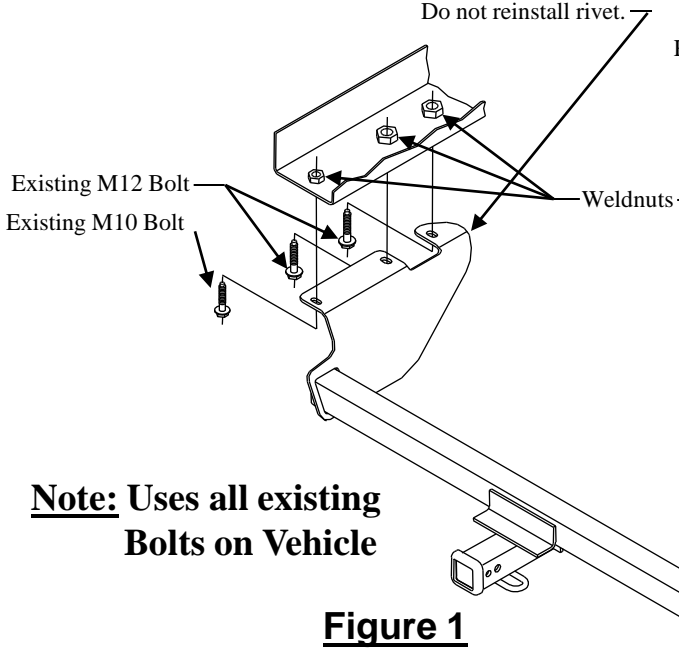
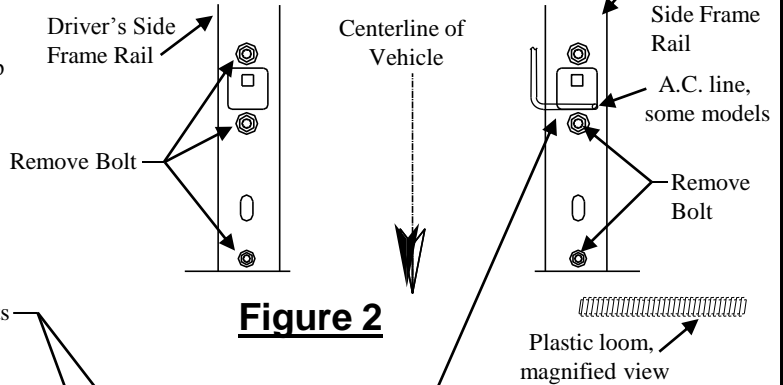

Figure 1
Figure 2
- Snap plastic loom in place over Air Conditioning line on Passenger's side near bolt if present. See Figure 2 above.
- Remove existing bolts from frame rails as shown in Figure 2, (3) on driver's side, (2) on passenger's side and retain for hitch installation.
- Remove plastic rivet holding plastic mud flap to Driver's side frame. May have to trim plastic after Step (4). You will not reinstall plastic rivet.
- Raise hitch into position as shown in Figure 1 and attach with existing bolts removed in step 2. Hand tighten.